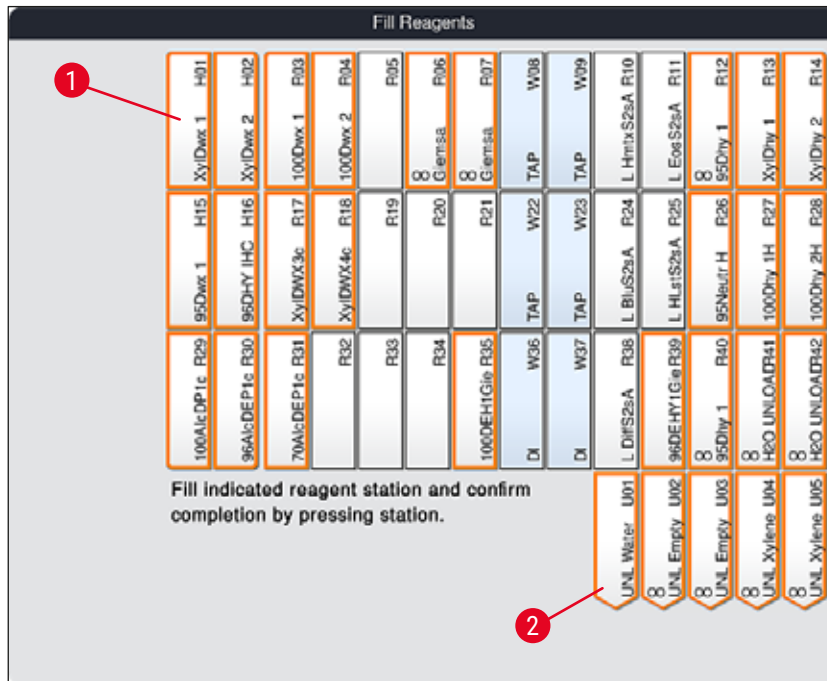

Fig. 56
2. In the new **Fill reagents** (→ "Fig. 56") window, the stations to be filled are marked in orange (→ "Fig. 56-1").
Only user-defined and added reagents of Leica staining programs are displayed with an orange marking (→ "Fig. 56"). The reagents from the Leica reagent kit are subsequently scanned (→ P. 82 – Filling the Leica reagent kit reagents).